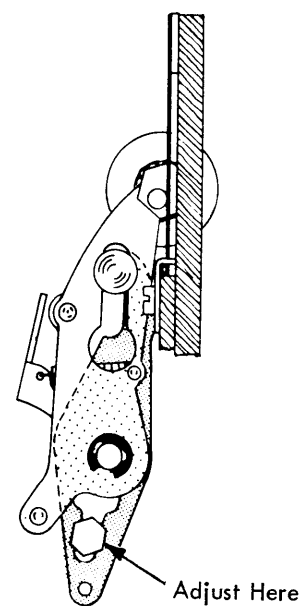

FIGURE 59. Rotate Arm Movement
10. Rotate Arm Motion - The adjustable plate on the bottom of the rotate arm (Fig. 59) should be adjusted up or down so that a half-cycled upper case letter "W" (+5) detents the same as a half-cycled upper case letter "R" (-3). When observing the detenting remove the head play lightly in the negative direction.